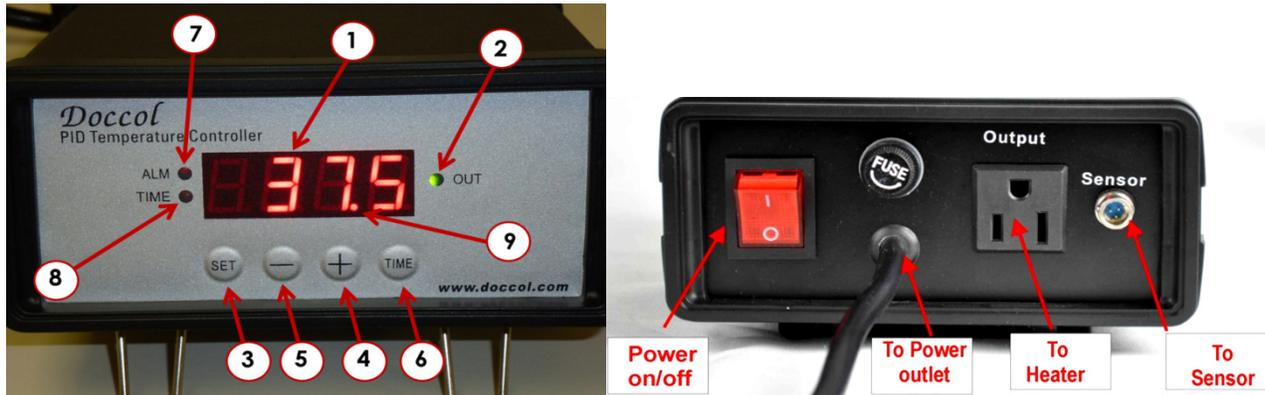

Figure 1. Front (left) and back (right) Panels
At normal operating mode, press the “Time” key (item 6 in Figure 1) once to toggle the LED window between the current temperature and the total time (in minutes) since the controller was powered up. The Time Indicator will lit at same time. When the time is being displayed, press the “+” key will toggle the display between the total running time and the running time of the current step. For example, the controller has being running for 100 minutes in total, but currently it is at step 2 for 40 minutes. When you first press “Time” key, controller will show “100” in the window with the Time Indicator lit. If then you press “+” key, the controller will show “P 40” while the Time Indicator still lit.